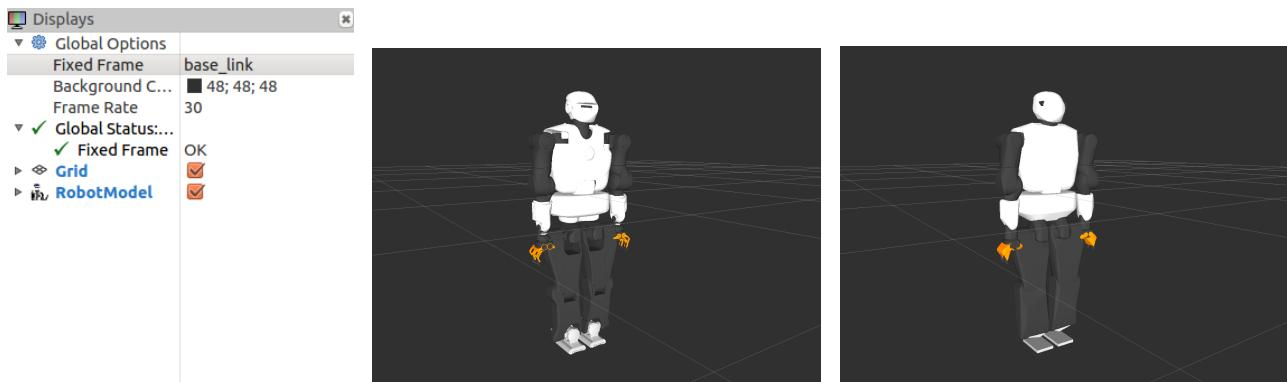

Figure 49: RobotModel display (left), visualization geometry (center) and collision geometry (right).
**Description** Rviz is a useful tool for visualizing the geometric and kinematic model of TALOS, as well as the robot's view of the world. As shown in Figure 49, rviz consists of a main 3D rendering area which is surrounded by a number of dock widgets. The 3D rendering area allows for the usual scene navigation operations, such as translation, rotation and zoom. We will now focus mainly on the left dock widget containing *Displays*. Refer to the official documentation for an in-depth description of rviz.
**RobotModel** Displays a rendering of TALOS links (Figure 49). It allows –among other things– to toggle between visualization and collision geometries, to set the model transparency, to show the axis of the body links' reference frames and the trail followed during motions.